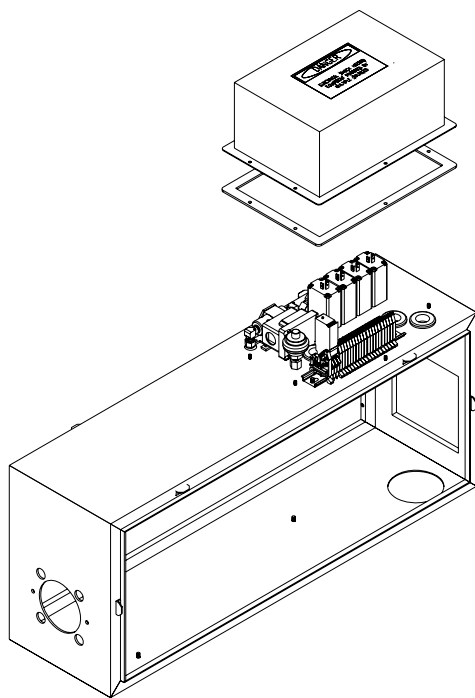

Figure 2-4. Valve Cover Removal
4. Remove valve cover (Figure 2-4).